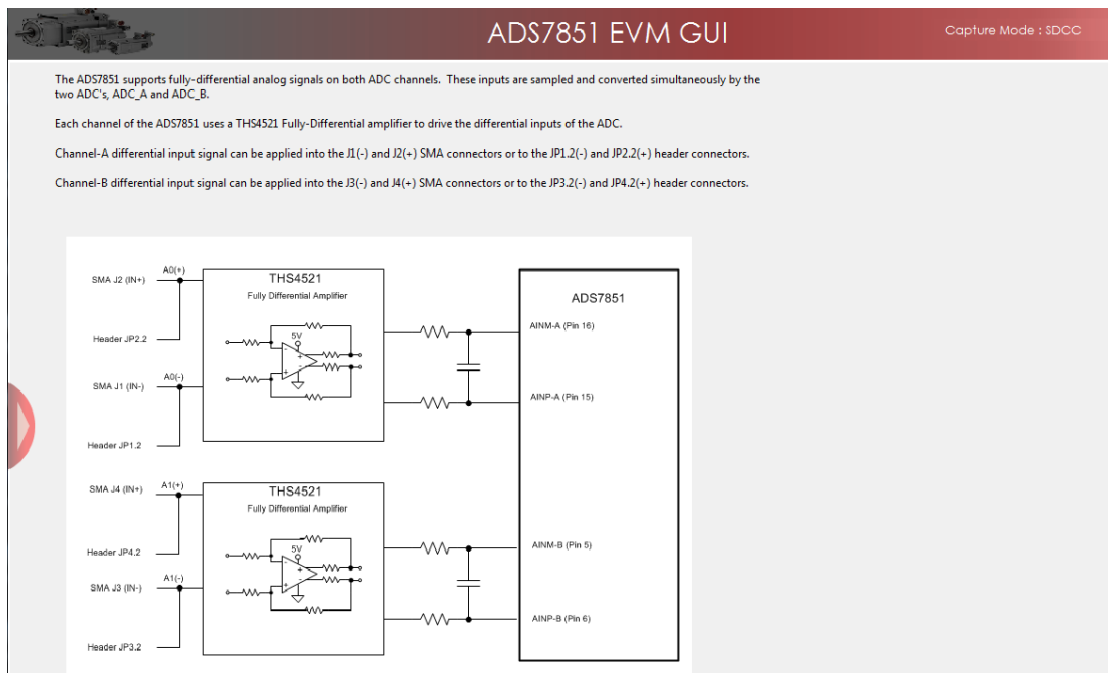

Figure 17. ADS7851EVM Analog Inputs description on the GUI
3. Scroll down in the *ADS7851EVM Settings* page and find the *ADS7851 Analog Inputs* connections description on the GUI. **Figure 17** shows the input connections description on the *ADS7851EVM Settings* page of the GUI. The channel A differential input signal can be applied into the J1(-) and J2(+) SMA connectors or to the JP1.2(-) and JP2.2(+) header connectors. The channel B differential input signal can be applied into the J3(-) and J4(+) SMA connectors or to the JP3.2(-) and JP4.2(+) header connectors.